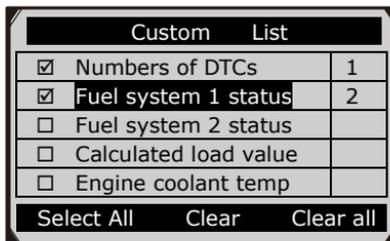

Figure 5.14
- 2) Use the **UP/DOWN** scroll button to move up and down to the desired items and click **Select** button to confirm. The selected parameters are marked with solid squares.(Figure 5.14)